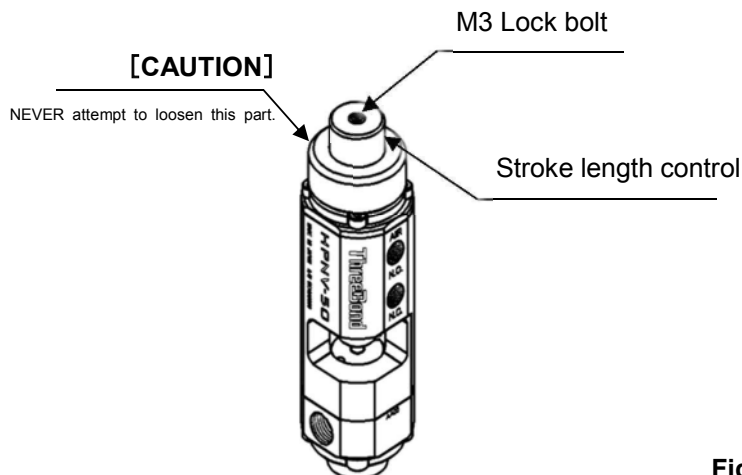

Fig. 11
- Loosen the M3 lock bolt that fixes the stroke length control so the head of the lock bolt protrudes by 6 mm, and then turn the control with your fingers to make adjustment to the stroke length (see **Fig. 11**).
CAUTION NEVER attempt to turn the part located at the bottom of the stroke length control (see Fig. 11).